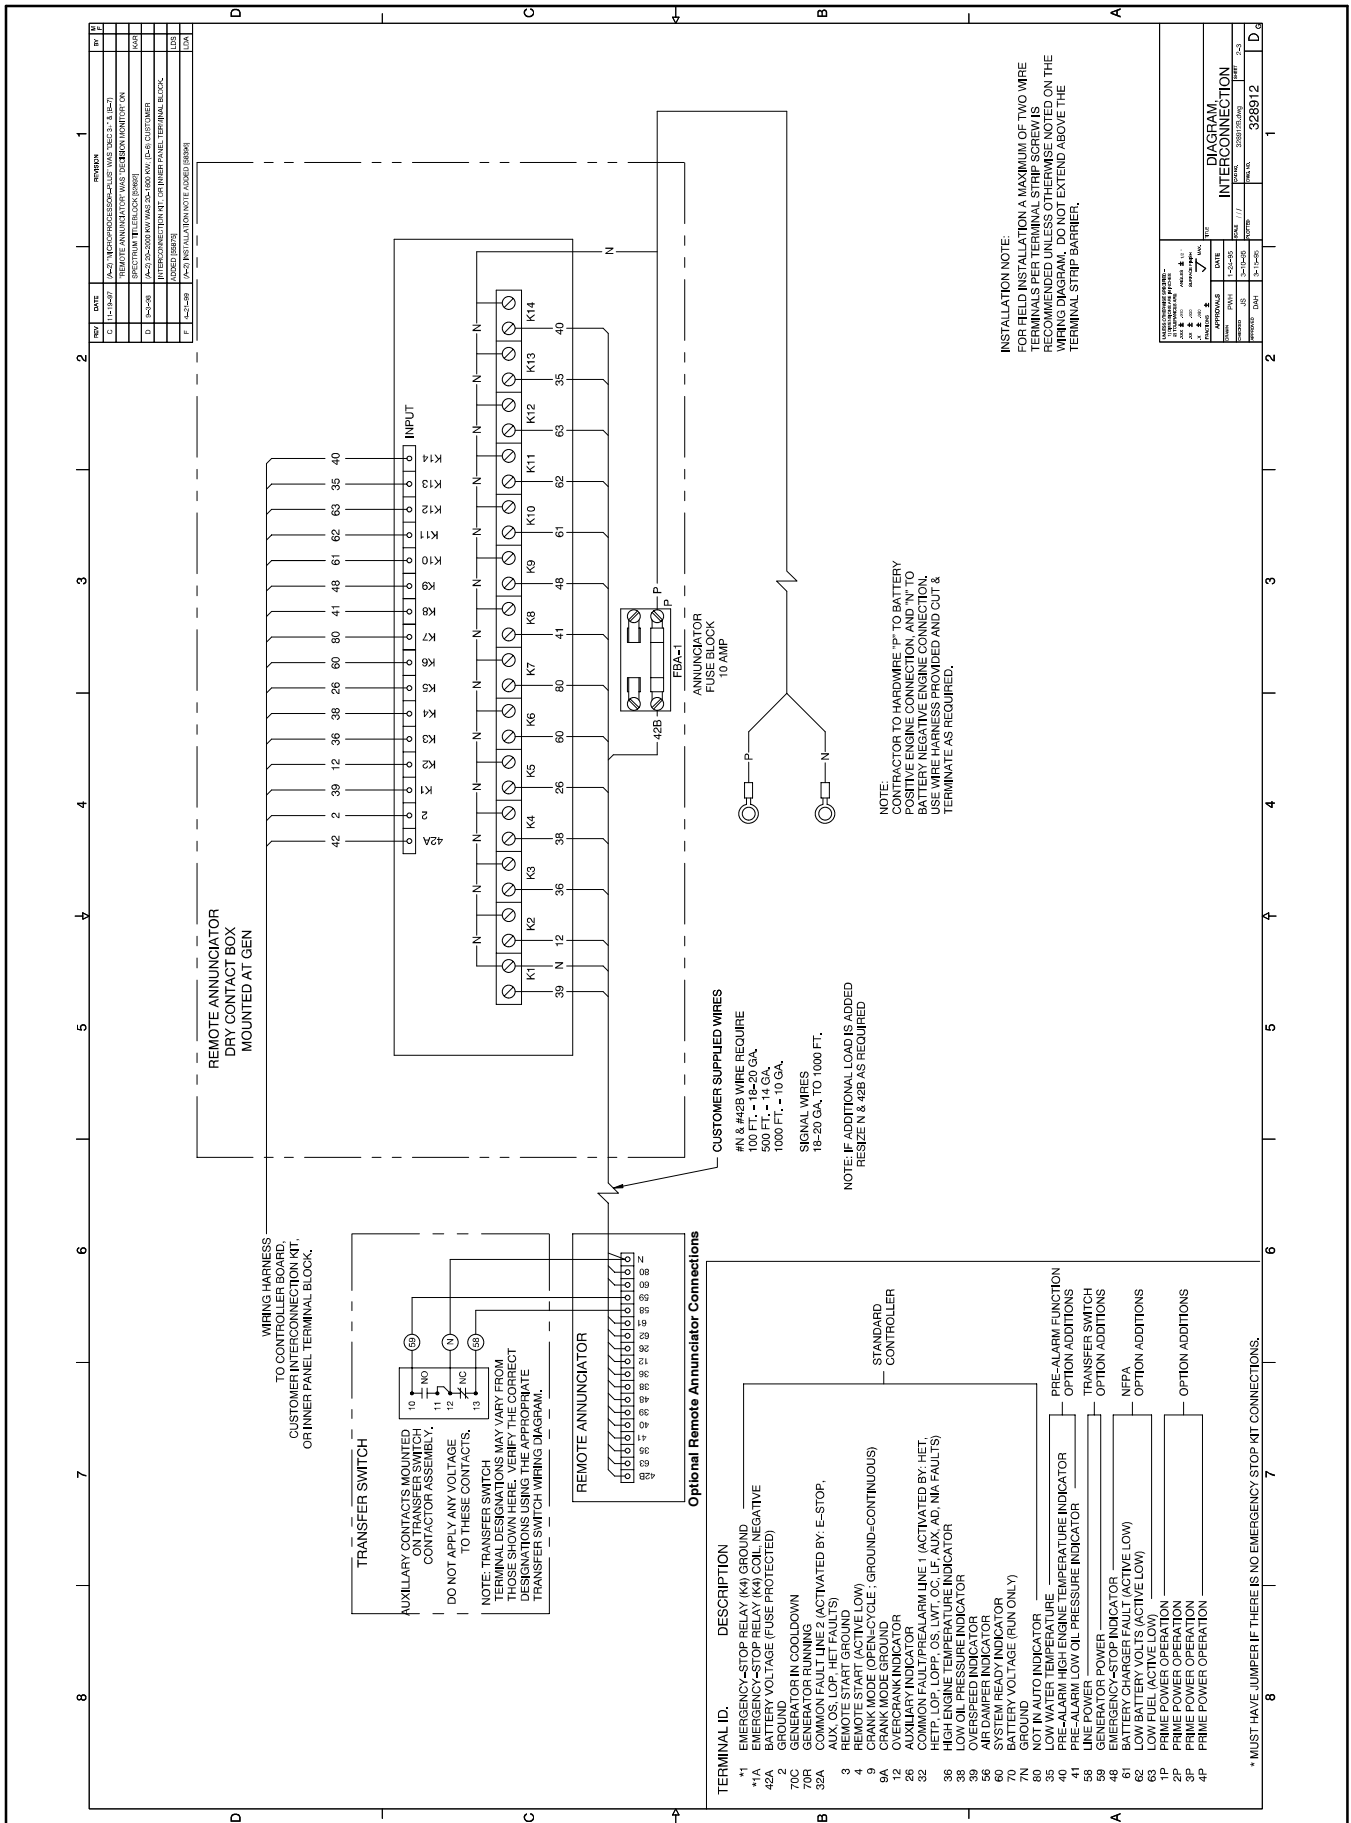

Figure 5 14-Relay Dry Contact Assembly Connections
4.1 Connect the 14-relay dry contact wiring harness (293982) to the controller connection assembly in the junction box. See Figure 5.